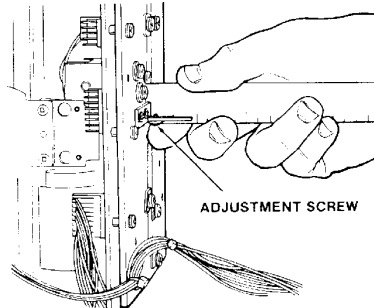

Figure 21. Document Stop Adjustment.
- b). Loosen the document stop adjustment screw located on the back of the printer mechanism (See Figure 21).
- c). Hold a straight edge flush against the printer mechanism case and measure document stop protrusion (See Figure 21).